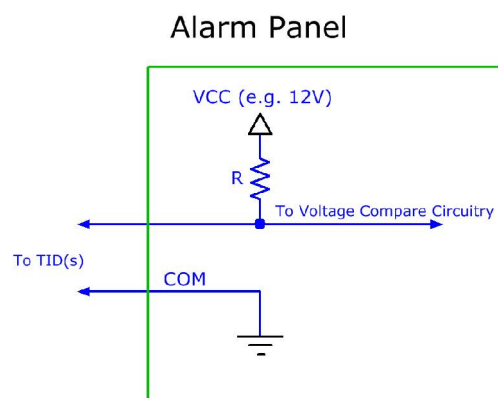

Figure 8 - Alarm Panel
The Receiver can also be integrated with an alarm panel or another external device. The Receiver terminal block has relay terminals for two different devices (device A, and device B), as shown in Figure 8.
2. Route the wires from the Receiver terminal block through the hole next to the SMA antenna connector (see previous Figure 8).
8. Use the zip tie to secure the wires in order to reduce the strain on the terminal block wires (see previous Figure 8).
The Receiver has a female SMA connector at the top of the case to connect the 2.4 GHz antenna, which communicates with the Transmitters. Attach the Receiver Antenna to the Receiver by placing the antenna carefully on the SMA connector (see previous Figure 8), lining up the center pin, and turn the antenna clockwise until the antenna is securely attached to the Receiver.